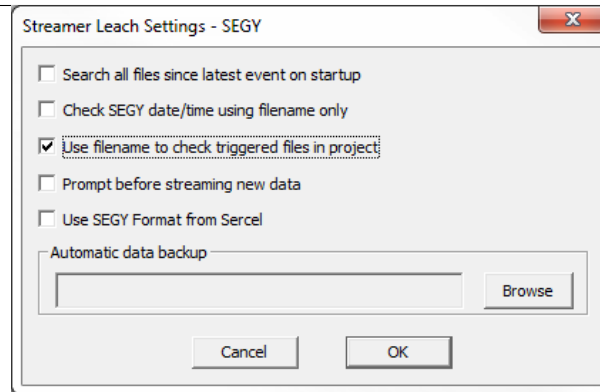

Figure 13-17: Further settings to control the SEG Y or MIRF data to be leached.
- (b) If the file type is SEG Y or MIRF, the user is also able to make further selections to control the data to be leached. The 'Settings' button becomes active, and when pressed launches a Dialog (Figure 13-17).